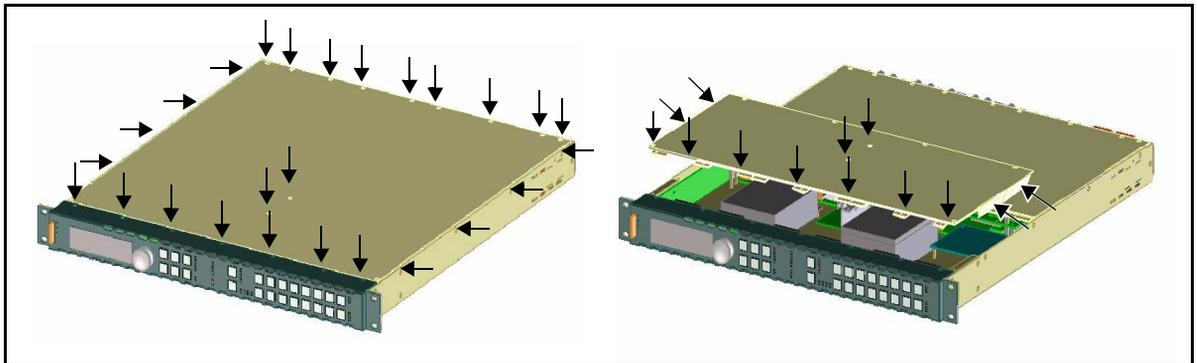

Figure C-2. Location of Chassis Cover Screws (Full Cover and Split Cover)
3. Use a Phillips screwdriver to remove the retaining screws on the full chassis cover or split chassis cover. Figure C-2 shows the location of the screws along the back edge, front edge, top, and each side of the frame.
1. Remove the screws along the back edge and each side of the X75's chassis cover (see Figure C-2 on page 261), and then slide the cover off.